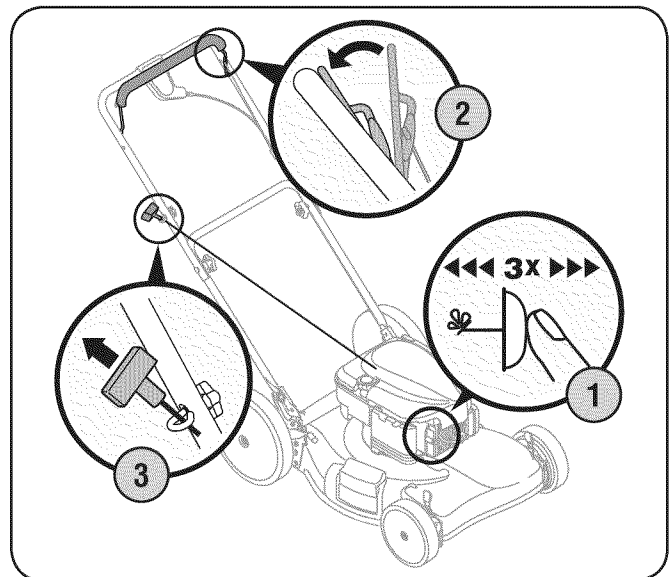

Figure 5-2
1. If equipped, push primer three times. Wait about two seconds between each push. See Fig. 5-2. In temperature around 55° F or below, prime five times. Do not prime to restart a warm engine.
3. Holding these two handles together firmly, grasp recoil starter handle and pull rope out with a rapid, continuous, full arm stroke. See Fig. 5-2. Keeping a firm grip on the starter handle, let the rope rewind slowly. Repeat until engine cranks. Let the rope rewind each time slowly.